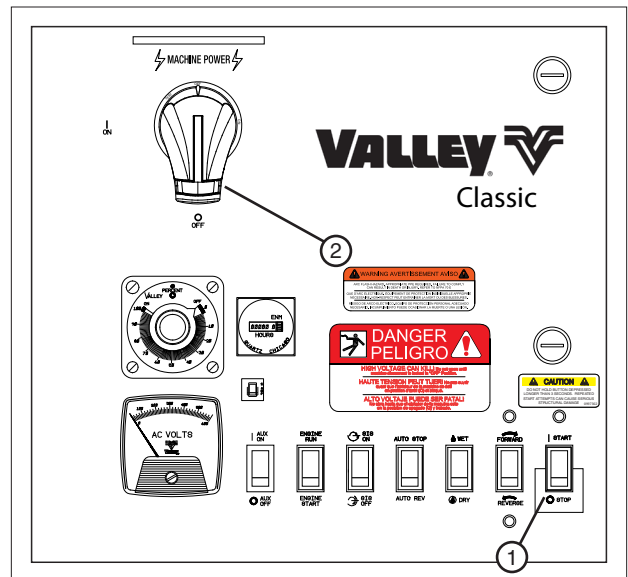

Figure 31-2 1. Start/Stop Switch
1. Place the START/STOP switch in the STOP position. See Figure 31-2.
2. Turn the main disconnect switch to the OFF position. See Figure 31-2.